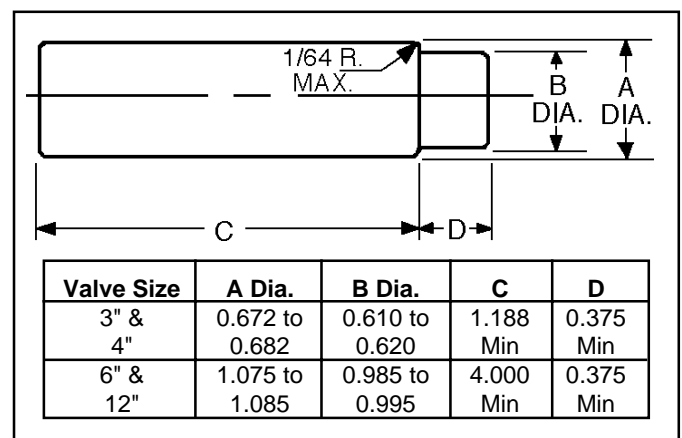

FIGURE 1
7. Press the liner (10) out of the body and remove O-rings (6) from the liner.
8. Remove the pipe plug (2) from the end of the body (1).
9. It is seldom necessary to replace the bearings (7, 8 and 9). If visual inspection of the stem (3.2) reveals excessive wear marks and/or deterioration, remove the bearings with the bearing ram. See Figure 1. Insert the bearing ram in the bonnet and press the main bearing(s) (7 & 8) out. Remove the ram and insert it through the pipe plug end of the body (1) and press main bearing (9) out.
- Remove the upper sleeve (15).
- Remove the pipe plug (2).
- It is seldom necessary to replace the main bearings (7). If visual inspection of the stem (3.2) reveals excessive wear and/or deterioration, remove bearings (7) with the bearing ram. See Figure 1. Insert the ram from the body bore and with a long punch drive bearing(s) out through the bonnet. Remove the ram, insert it in the bearing at the pipe plug (2) end from within the body (1) bore and drive the bearing out.
- Press the main bearing(s) (7) into the bonnet end of the body (1), all the way to the lip. Use the bearing ram of Figure III-B1. One bearing in 3" and 4", two bearings in 6"-12".